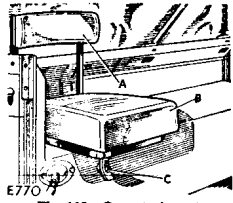

Fig. 118. Operator's seat
300. Two operators' seats are provided in 9 (¾ ton) vehicles and one in 8 (¾ ton) vehicles (Fig. 118). These are lightweight, quickly detachable seats which rest upon the wheel arches of the vehicle and have hooks on their backs to locate on the sides of the body.
The seats are secured, particularly for cross-country work, by means of a strap fitted to the underside of the seat which locates on a stud (Fig. 118 (C)) fitted to the side of each wheel arch; ¾ ton vehicles have a stud on the left side only.